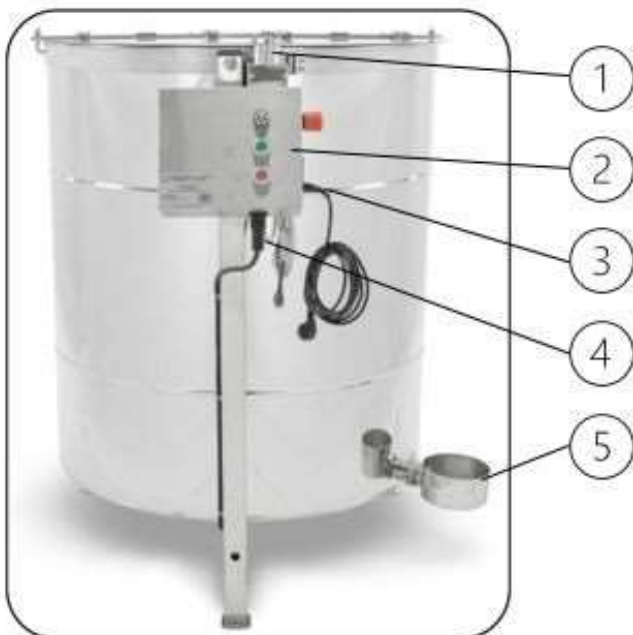

Fig. 2
- check if funnel "5" (fig. 2) is positioned directly under the draining valve of the extractor
- connect supply plug "3" Fig. 2 to the supply socket
- switch on the controller "2" Fig. 2 using the main switch "10" Fig. 3 from position "0" to "1"